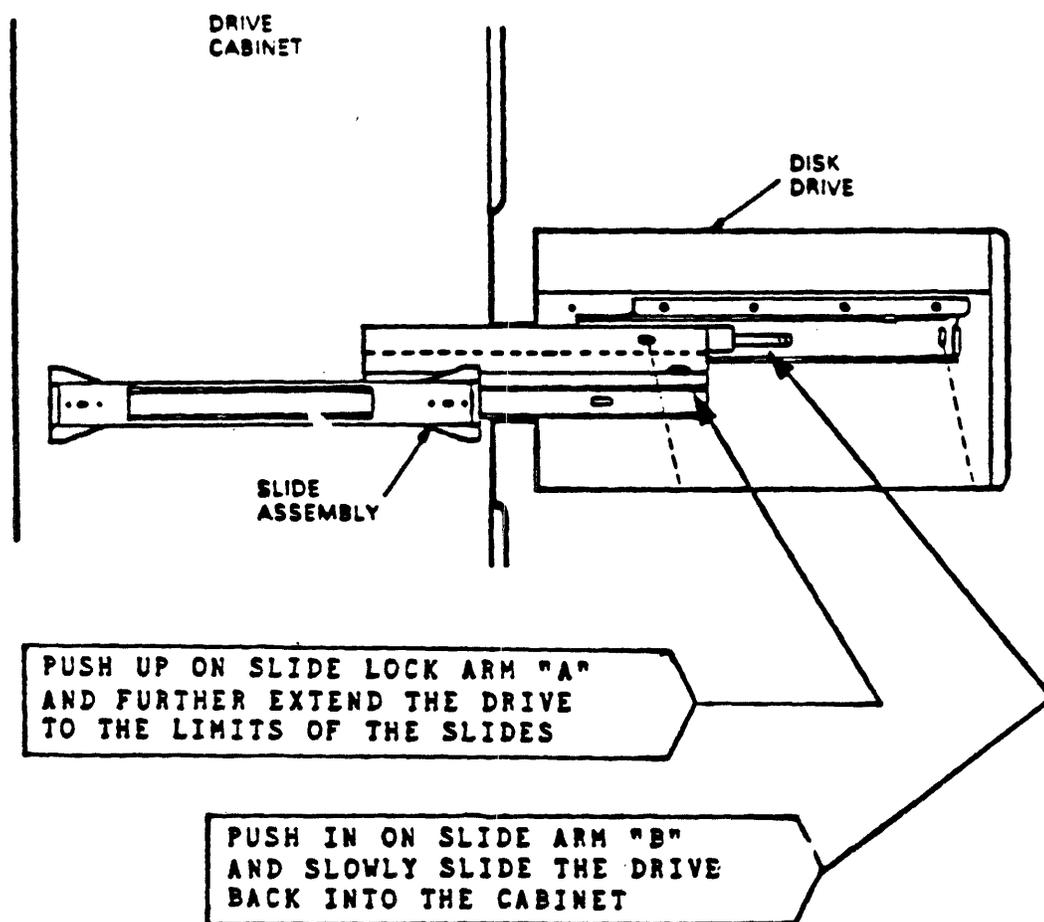

FIGURE 5
10. Push up on the slide lock arm "A" to extend the Drive all the way out. (Figure 5)
13. Push in on slide arm "B" and slowly slide the Drive back into the cabinet. (Figure 5)